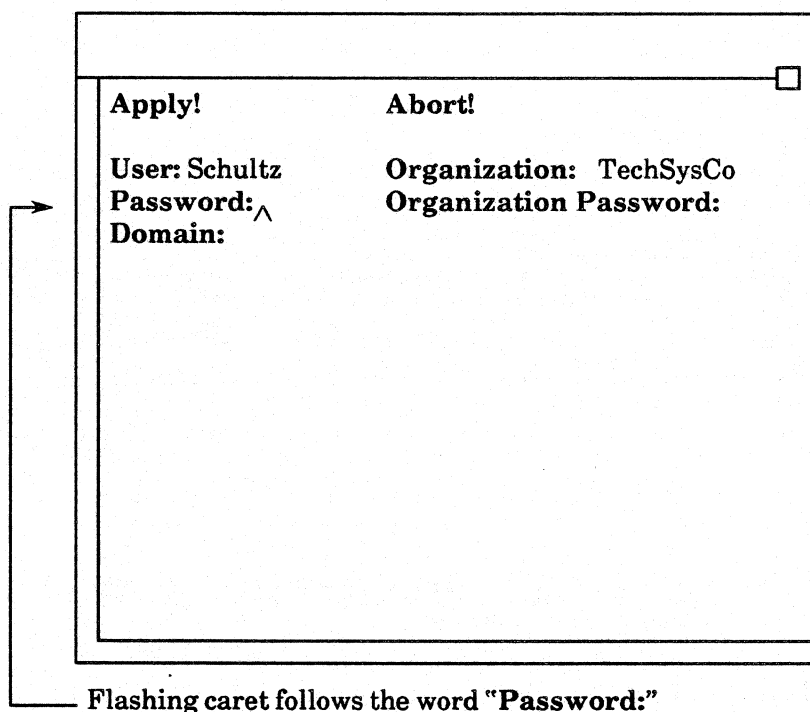

Figure 2.2
- 1) Press the key marked **STOP**. The system displays the *login window*. The login window contains fields for entering your name, organization, password, organization password, and domain. Figure 2.2 illustrates the login window. In the login window you see the name and organization of the person who last used the workstation. Frequently that person is you.